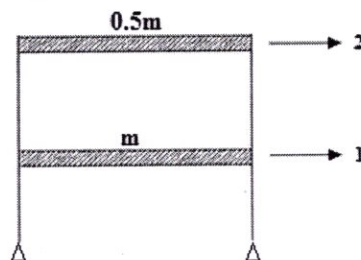

Fig.4
- Q.4 For two storied shear building shown in Fig.4, compute the 15 L6 CO4